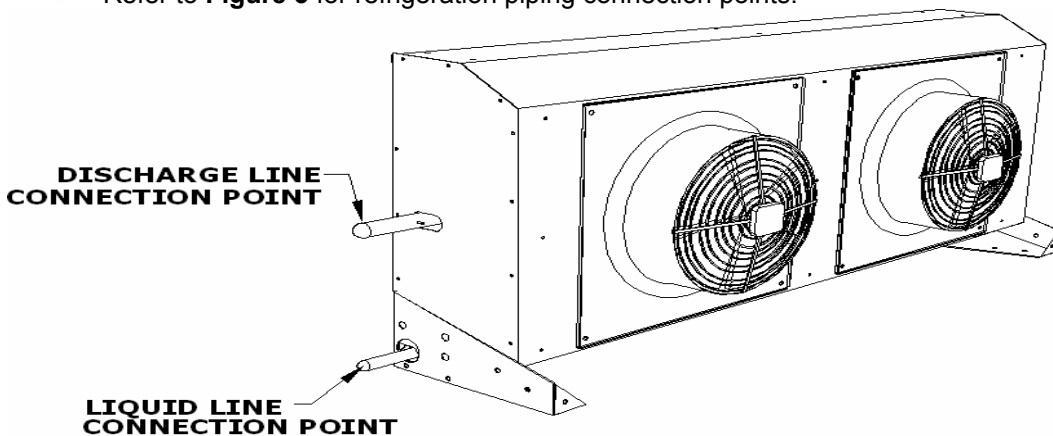

Figure: 3.
- Refer to **Figure 3** for refrigeration piping connection points.